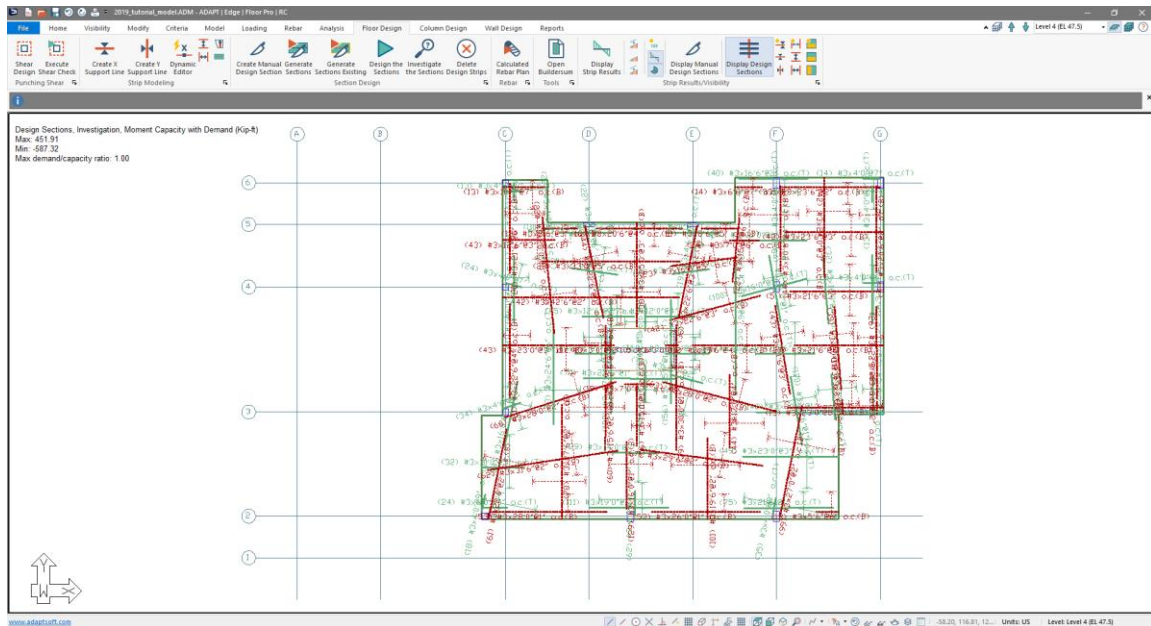

Figure 10-39
- Click **OK** button as we will generate the Envelope rebar needed to satisfy all design criteria with the default options of the program. When done the users' screen should be similar to that shown in **FIGURE 10-39**.